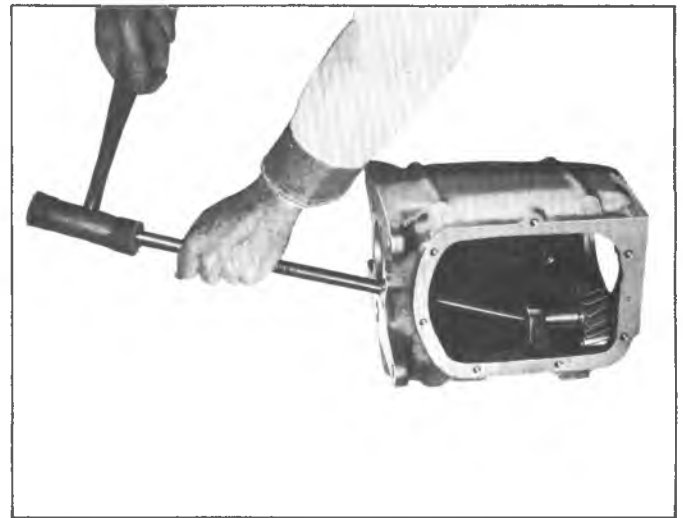

Fig. 3A--Removing Reverse Idler Shaft
11. Use a long drift or punch through the front bearing case bore and drive the reverse idler shaft and woodruff key through the rear of the case (fig. 3A).